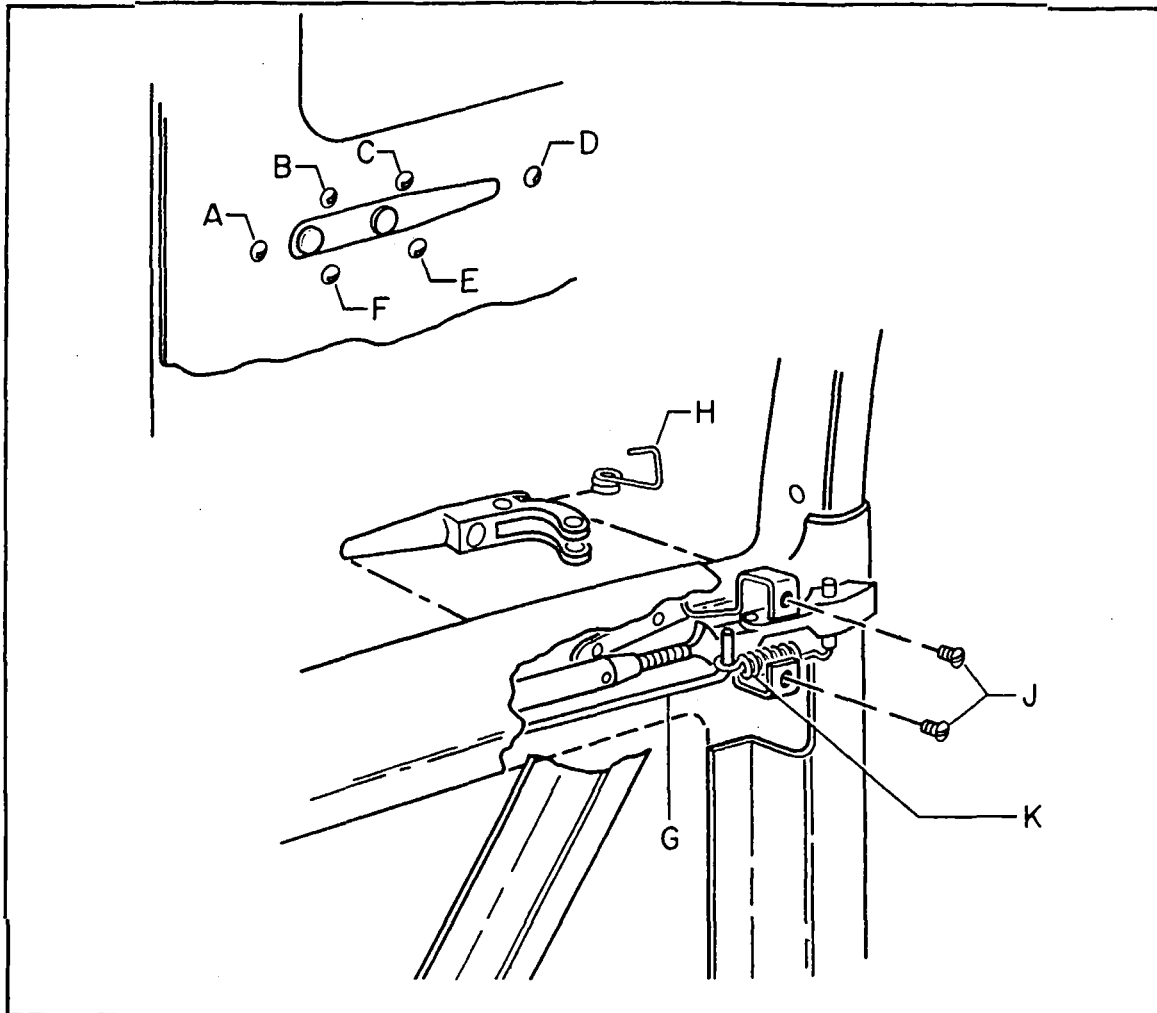

Figure 4-1. Door Lock Installation
- c. Remove the three screws (A), (B) and (F) as indicated in Figure 4-1. Loosen the remaining three screws (C), (D) and (E). Screw F is a longer screw and prevents the clevis pin in the door handle from dropping out of place when the lock is assembled.
- d. Remove the two screws (J).
- e. Disconnect the coiled spring (K) from the end of the locking rod by pulling the locking rod (G) down between the skin of the door and the frame holding the door lock mechanism. By using care, this part of the frame may be sprung away from the skin to permit sufficient clearance. This point is where the screws were removed in Step (d) above.
(1) Remove screws (C), (D) and (E) from the handle frame. (Refer to Figure 4-1.) Remove the screws from the door latch guide block.
(2) Pull the door latch into the door; this will allow the frame and assembly to drop down. A half turn of the frame will remove the frame from between the inner and outer door shell. The inner shell may be sprung outward to provide clearance.
(3) Position the new frame on the door latch mechanism (a half turn will locate it properly), move it up into place, let the assembly move forward through the block, and install the screws to hold the assembly in position.